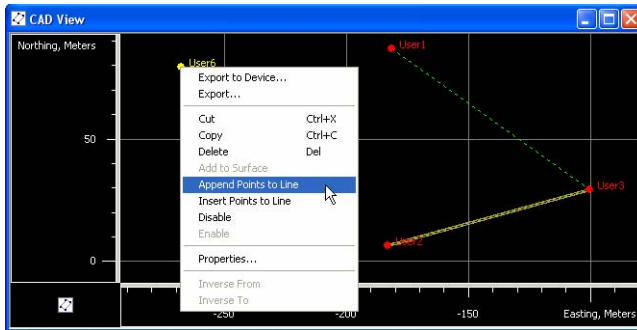

Figure 5-30. Appending Points Using the Pop-up Menu
1. Right-click the desired point in the Cad View and click **Append Points to Line** on the pop-up menu (Figure 5-30).